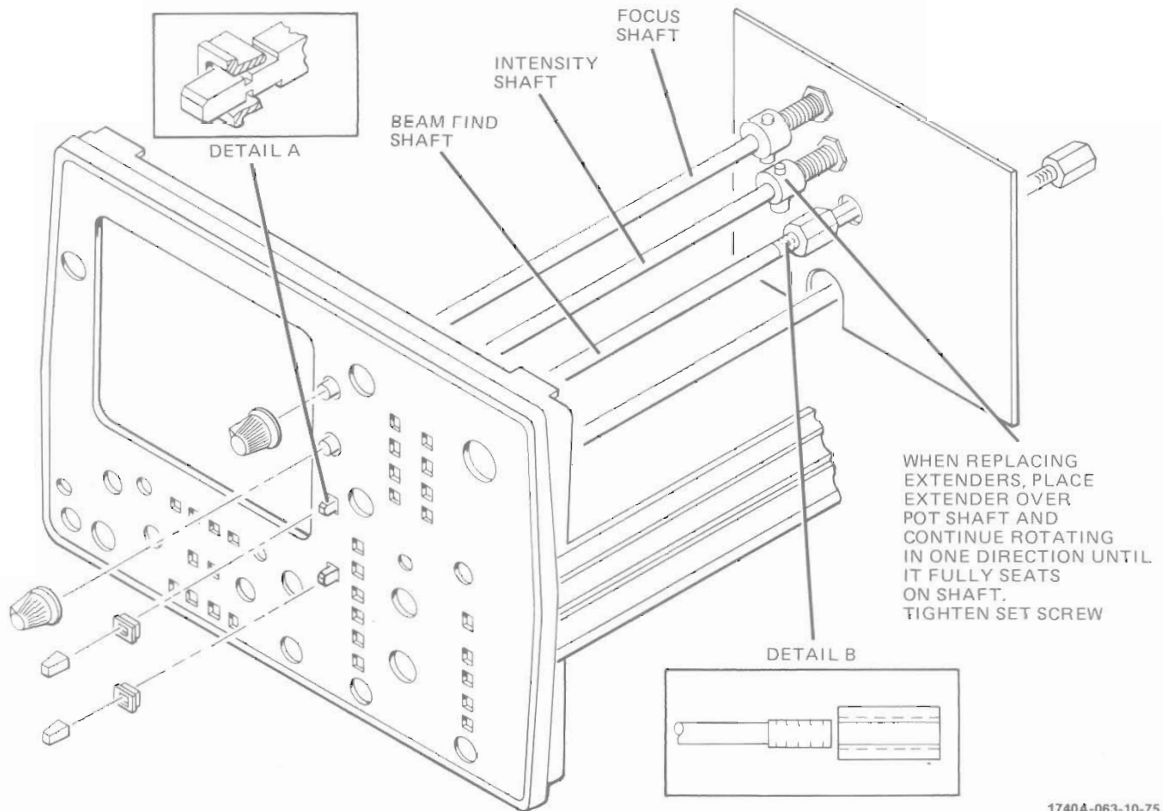

Figure 8-4. Gate Amplifier Assembly Removal
- b. Disconnect gate output wires (9) and (3).
- e. Disconnect ac input leads (90) and (908).
l. To reinstall A16, reverse removal procedure, except after A16 is secured in place, screw LINE switch shaft into switch (switch must be in "out" position) until slot is halfway through bezel, then press button onto shaft (refer to paragraph 8-18, figure 8-4).